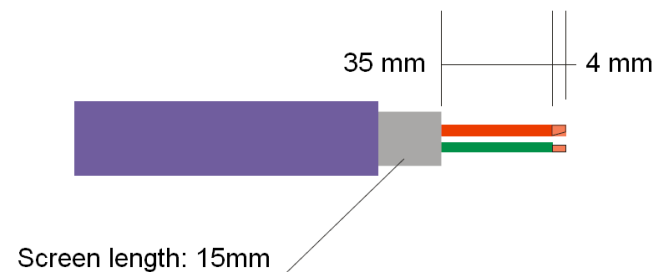

**Fig. 2**
- Connecting the voltage supply for motor and bus interface ① (1 x M20 cable screw connection) and the bus cables ② (2 x M16 cable screw connections) via the PROFIBUS adapter (**Fig. 2**).